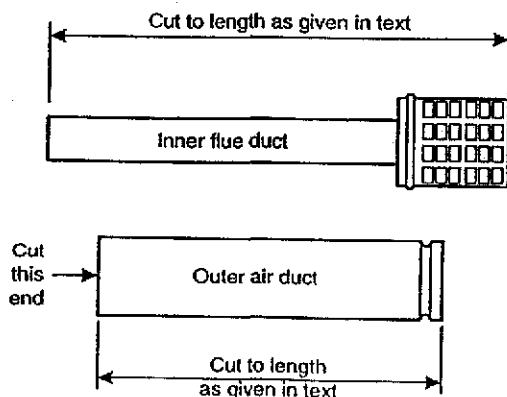

Fig. 10
3.5 FIT THE STANDARD HORIZONTAL FLUE (See Figs. 10 and 11)
- 3 Mark the outer air duct to match the length given above, measure from the swaged 'outer' end of the tube. See Fig. 10.
- 4 Mark the inner flue duct to match the length given above, measure from the outermost edge of the terminal. See Fig. 10. Push the spacing clip towards the terminal so that it will be about in the middle of the duct when it is cut to length. The clip can be removed on short flues, below 500 mm.
- 6 Fit the outer sealing collar over the swaged end of the outer duct, ensuring it locates in the swage. See Fig. 10.